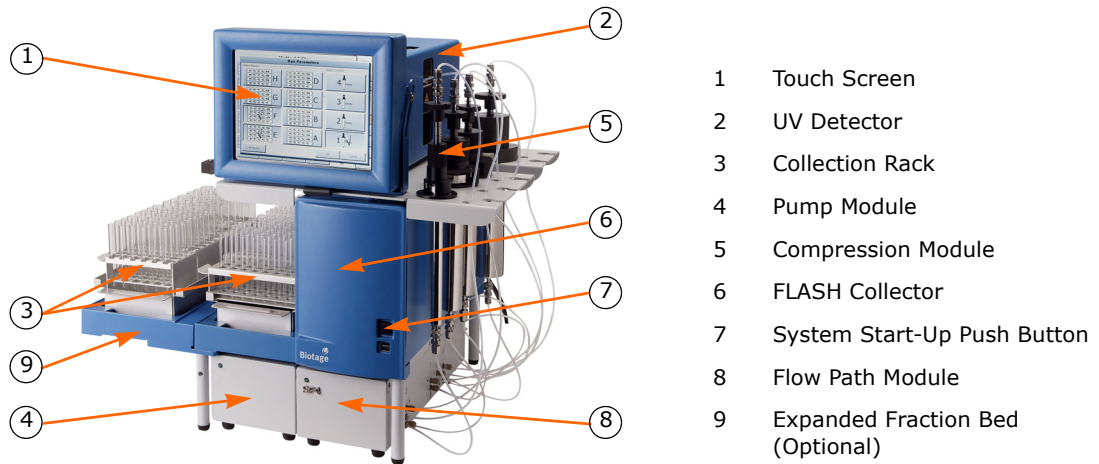
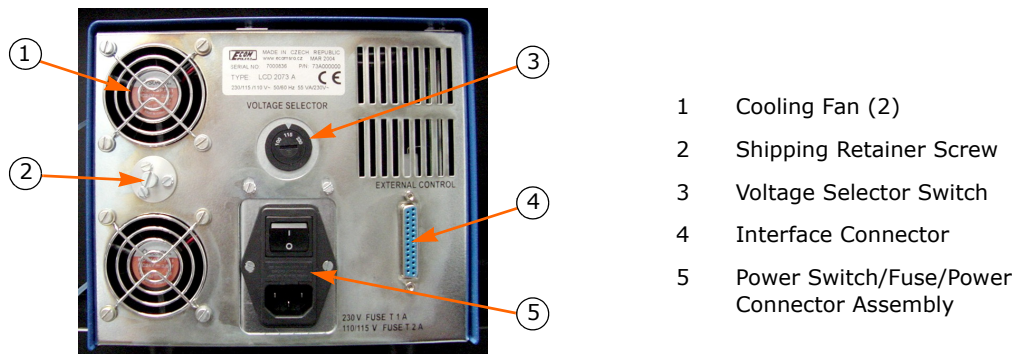
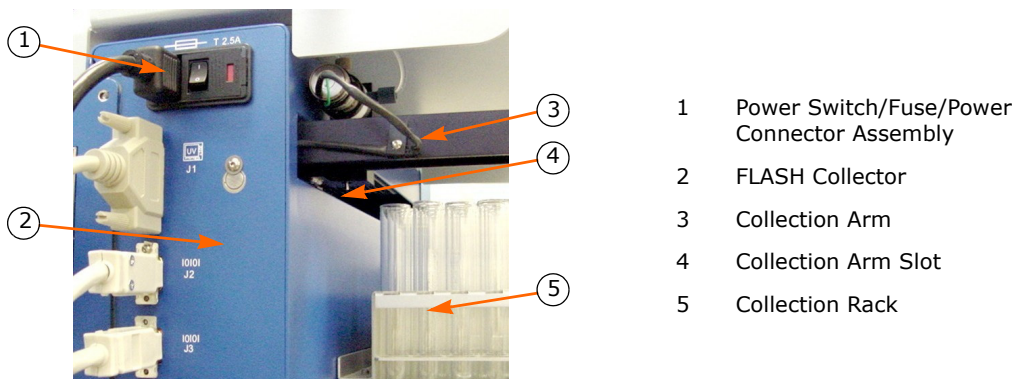

Figure 1-1. System Components
Figure 1-2. UV Detector Rear View (Variable Wavelength Model Shown)
Figure 1-3. FLASH Collector Rear View
- Ultraviolet (UV) light can injure your eyes. Do not operate the UV Detector with any of its covers removed.
- Never reach into the Collection Arm slot (Figure 1-3 on page 1-4) on the left side of the FLASH Collector. Otherwise, you could be injured by lethal voltages inside the unit or by the Collection Arm motion.
- Before connecting or turning the UV Detector on, set its rear-panel voltage selector switch (Figure 1-2 on page 1-4) to the AC supply voltage used at the installation site.
2. Plug in the FLASH Collector power cord and turn on the FLASH Collector. The power switch is located at the rear of the unit. (See Figure 1-3 on page 1-4.)
3. Plug in the UV Detector power cord and turn on the UV Detector. The power switch is located at the rear of the unit. (See Figure 1-2 on page 1-4.)
4. Press the System start-up push button on the front of the FLASH Collector (Figure 1-1 on page 1-4). The Collection Arm moves through its homing routine and the system boots to the system's main menu.
7. If you wish to remove power from the system, wait until the Touch Screen (Figure 1-1 on page 1-4) goes blank and then turn off the FLASH Collector (Figure 1-3 on page 1-4) and the UV Detector (Figure 1-2 on page 1-4). The power switches are located at the rear of the units.
1. Install the compression module, cartridge and collection rack(s) that you want to use (see Figure 1-1 on page 1-4). For connection drawings, see the "Unpacking and Installation" document.